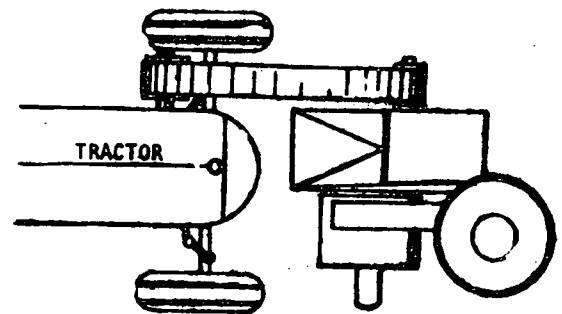

Fig. 1
- a) Correctly align the tractor with the machine (Fig. 1).